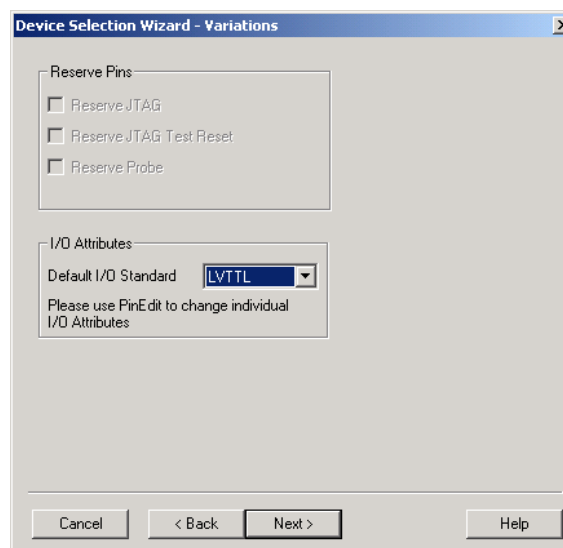

Figure 1 • Default I/O Standard Selection in Designer
- Select the Default I/O Standard in Designer's Device Selection Wizard (Figure 1)
- Invoke ACTgen (Figure 1)